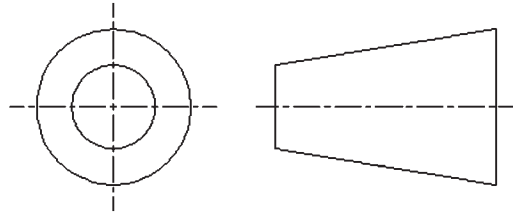

FIGURE 27.8
- **Projections:** These can be front, back, top, bottom, side, and isometric in nature. Be aware of how projected views are oriented from the parent view and where they are located. In the commonly used Third Angle projection, a head-on view turns to the right and faces the parent view (relative to you, the observer). Figure 27.8 demonstrates the convention used. There is also a First Angle projection where the side view is the main one, not the front.